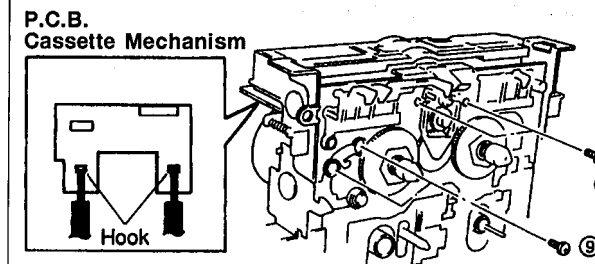

Fig. 8
- b. Remove 2 screws (⑨) and detach 2 hooks of the P.C.B. Cassette Mechanism, then remove the Reel Motor in Fig. 8.